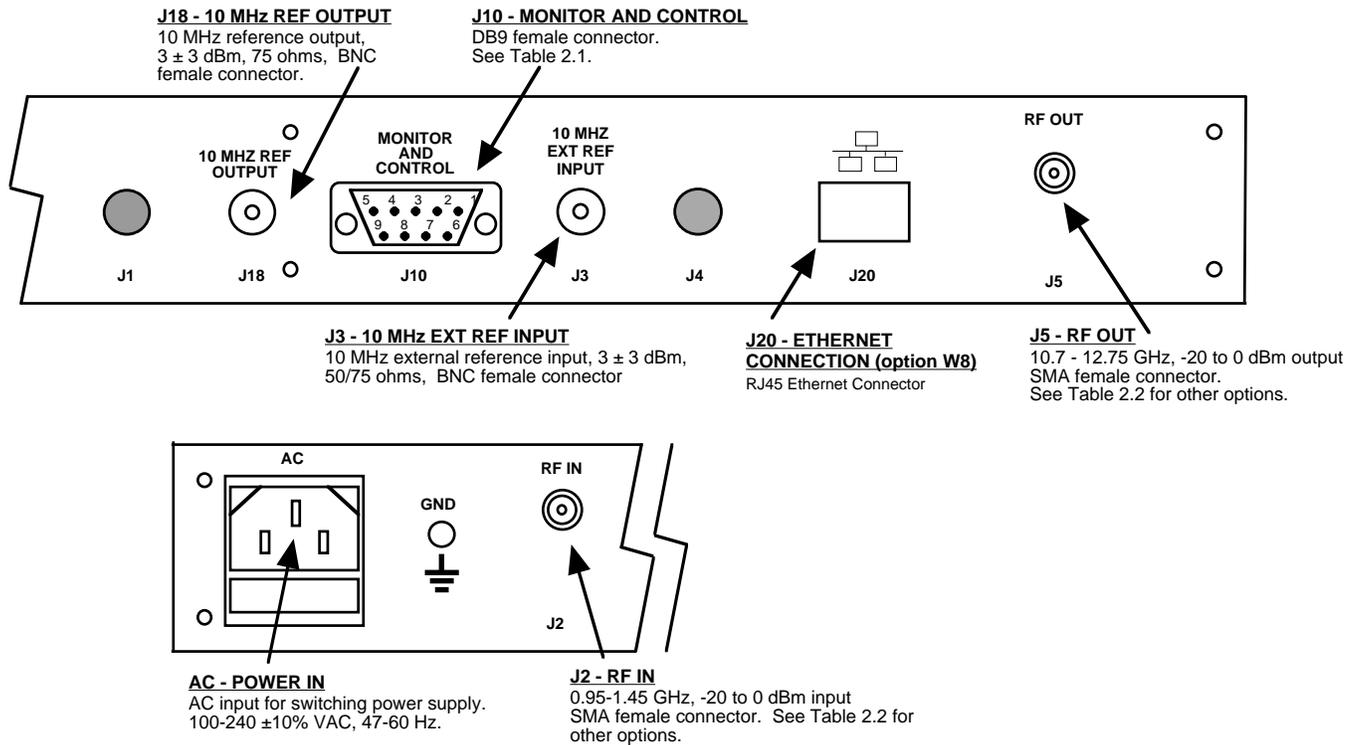

FIGURE 2.2 3115-51 Rear Panel Inputs and Outputs
2.2 Rear Panel Input / Output Signals - Figure 2.2 shows the input and output connectors on the rear panel.
Alarm indications appear on the LEDs (see figure 2.2).